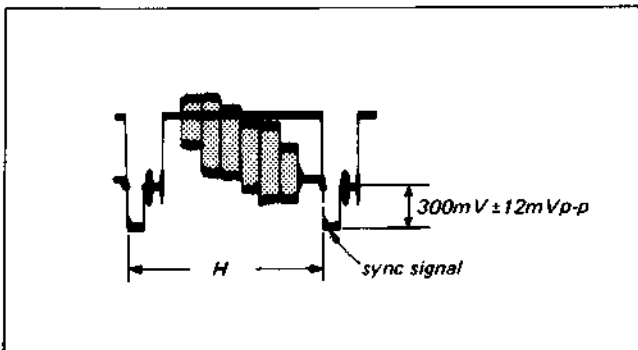

Fig. 4-4-1. Level adjustment of sync signal
- (3) Connect the oscilloscope to pin 24 of IC1.
- (4) Adjust RV1 for the sync signal level of  $300\text{mV} \pm 12\text{mVp-p}$ . (See Fig. 4-4-1.)